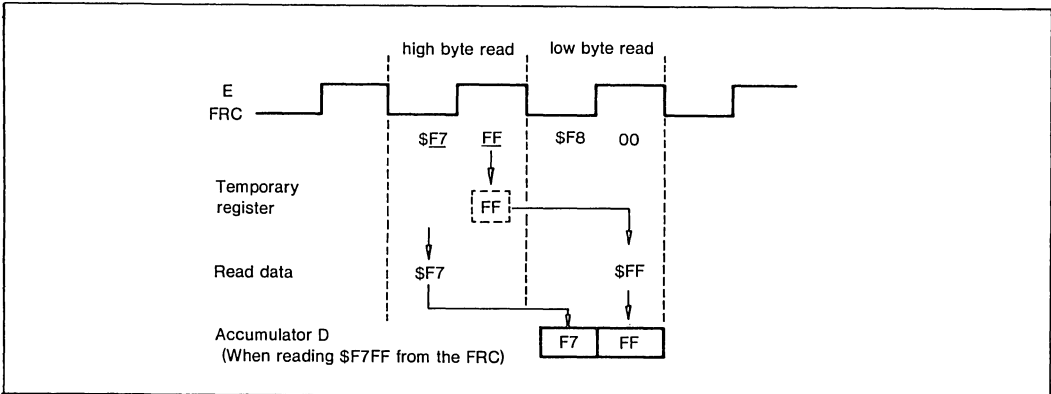

Figure III-3. FRC Double-Byte Read
**Answer:** It is correct. In the first cycle, the high byte of the FRC is read, when the low byte is set in a temporary register. At the next cycle, the data stored in the temporary register is read (figure III-3).